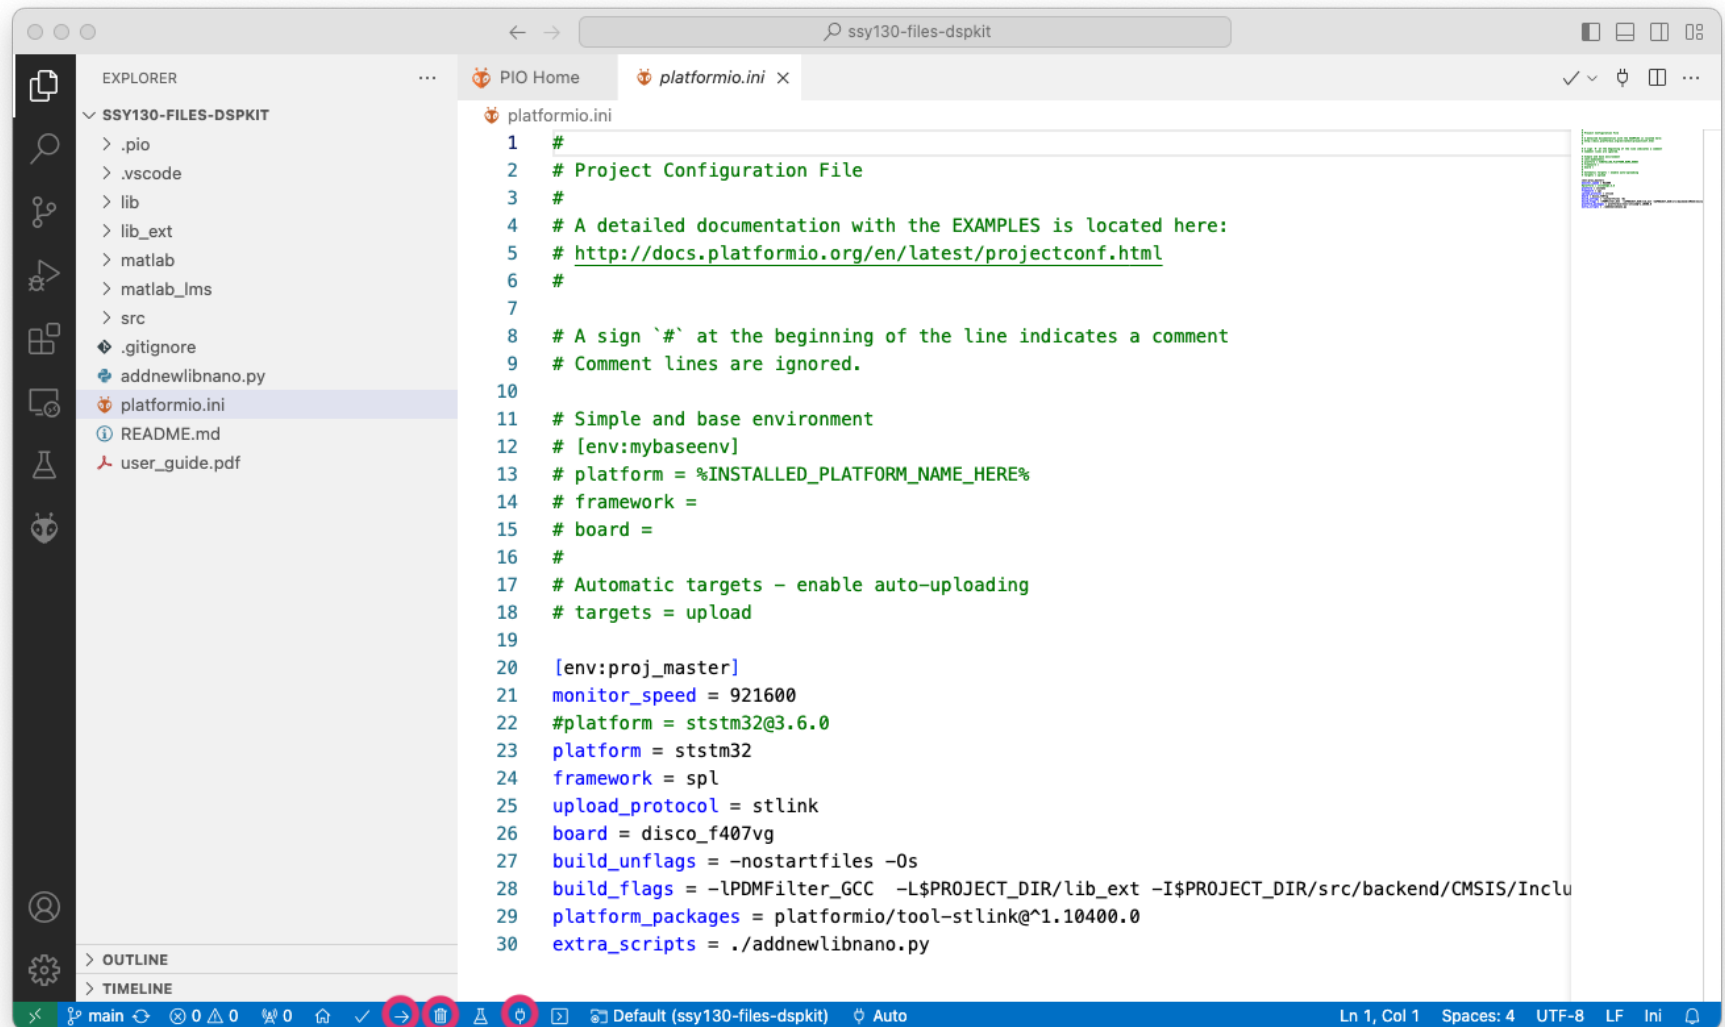

Figure 2: VSCode IDE.
3. The lower bar in VSCode should now contain the icons circled in Figure 2. If not, either the PlatformIO extension has not been completely installed or you have not opened the correct folder.
6. Open the serial monitor (the rightmost circled icon in Figure 2). It should automatically select the correct port. If you need to manually configure it select the correct serial device (labeled '**FT232R USB UART**' (Linux/Mac) or '**Usb Serial Port (COMx)**' (Windows)). Complete by maximizing the serial monitor window.
4. Use the upload button, lower leftmost in Figure 2, to compile, link, and upload the current source code to the DSP-kit.
5. Open/switch to and maximize the serial communication interface, lower and upper rightmost respectively in Figure 2, and interact with the DSP-kit as needed.